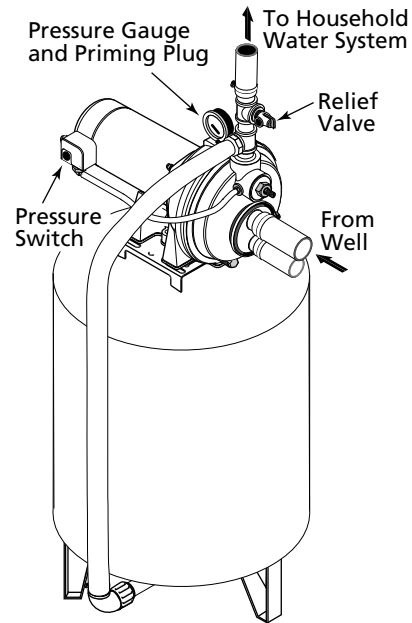

Figure 10 – Pre-charged Tank Connections
### PRE-CHARGE TANK CONNECTION (FIGURE 10)
1. Install a close nipple and a tee in the pump discharge port (See Figure 10). The pipe size must be at least as large as the discharge port. Run a pipe or reinforced hose from one arm of the tee to the port on the pre-charged tank.